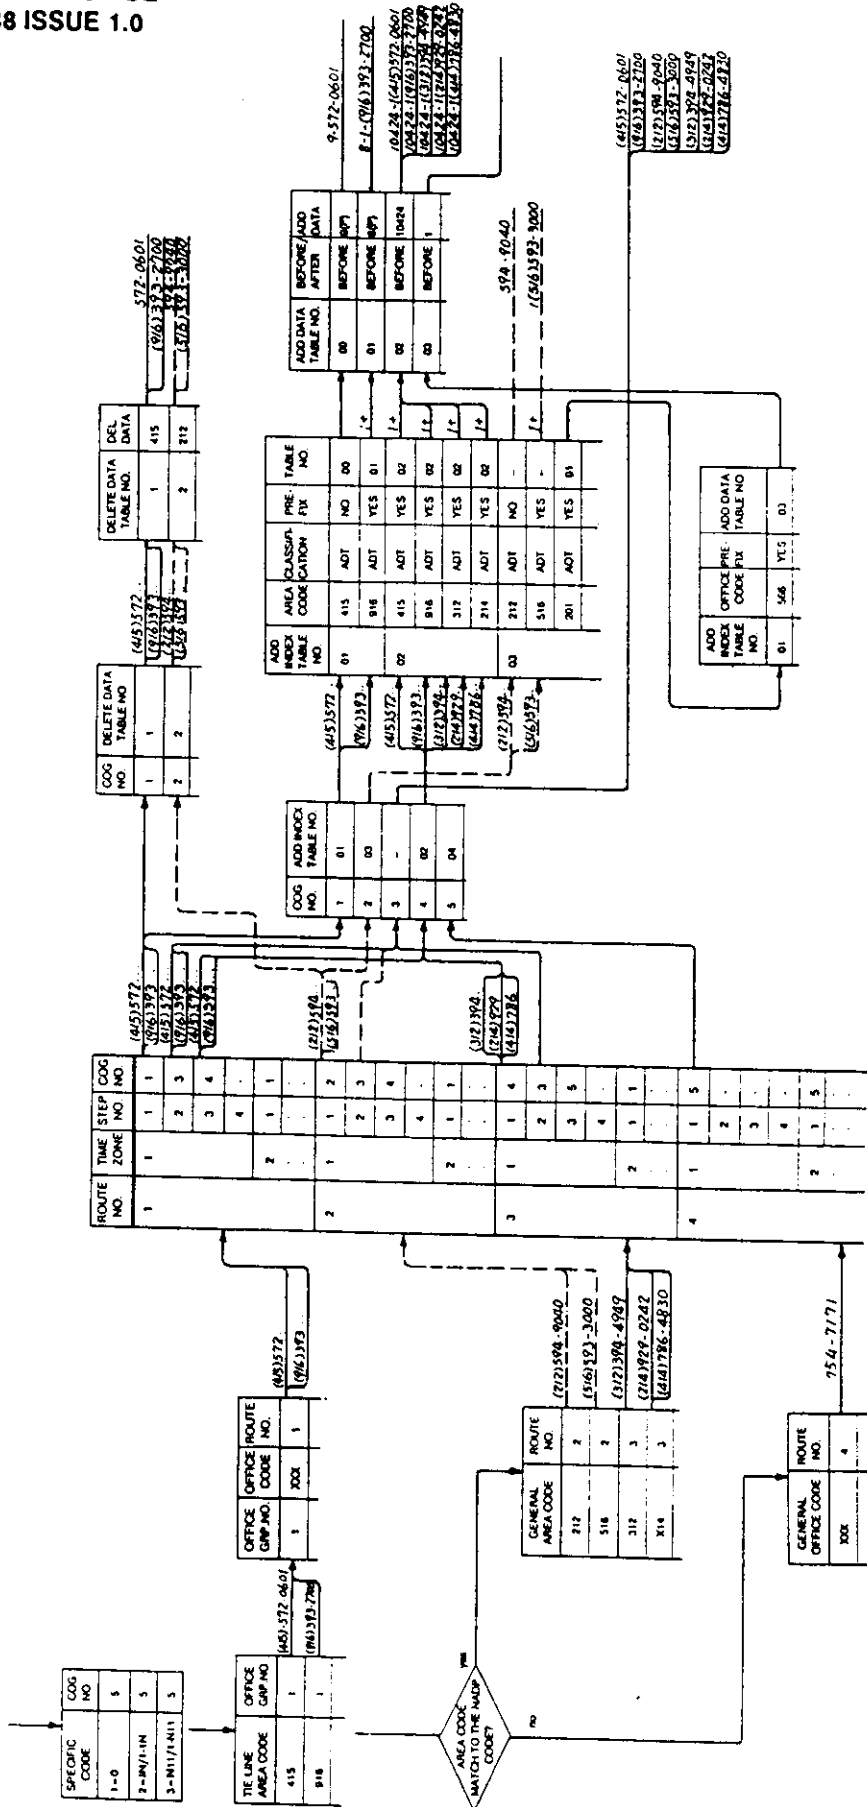

FIGURE A-3 DATABASE AND DIAL IN OPTIMIZED ROUTING
Figure A-3 illustrates an example of the ZT-D system database and how dialed numbers are handled by the optimized routing. In this example, the dialed number
3.02 The ZT-2464 (ZT-2472) KSU card configuration with the M/KCPUHW-1 card is illustrated in Figure A-3. Additional extension circuits for extension numbers 184 through 190 and 194 appear at the AMPA24-1 Distribution Panel.